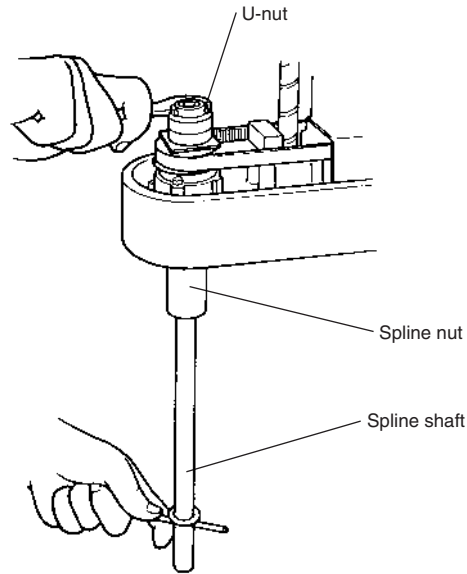

Fig. 5-29
(See Fig. 5-29.)
- 21) Insert the bearing mount plate and bearing onto the spline from the top, and tighten the U-nut to secure the bearing. (Utilize the  $\phi 7$  through-hole when tightening the U-nut like you did to loosen it.) (See Fig. 5-29.)